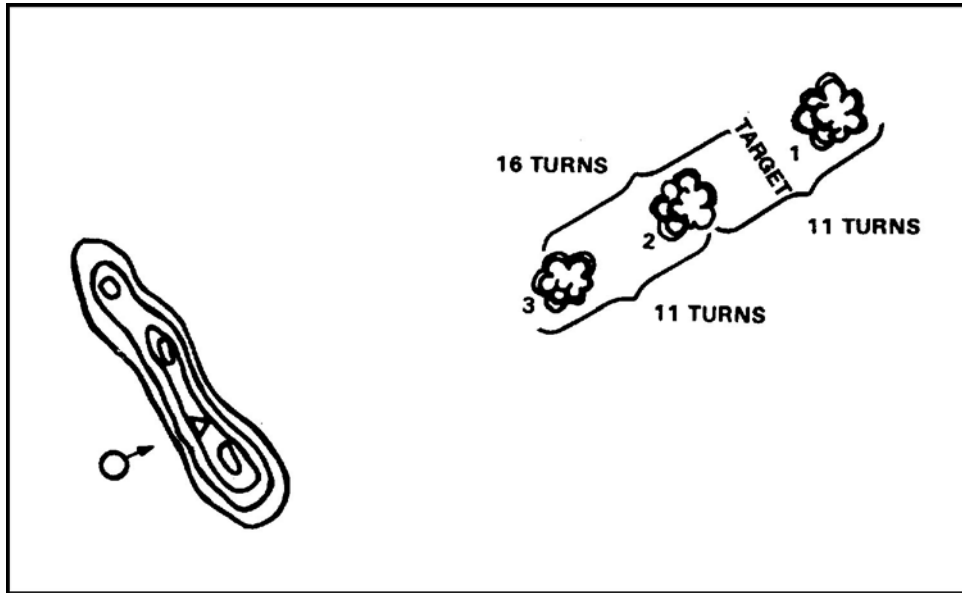

Figure 5. Firing for effect.
- c. In Figure 5, the target appears between round 1 and round 2. After firing round 3, the gunner leaves the mortar as it was when fired (up 22 turns). The FO or squad leader knows that if he goes down 11 turns, he could hit where round 2 hit; the target is halfway between No. 2 and No. 1 rounds. If he goes down five more turns, he will be right on target and be ready to fire for effect.